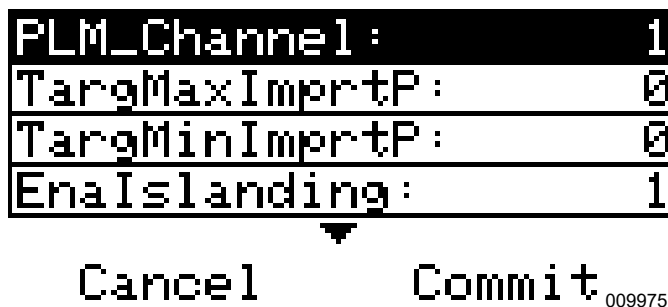

Figure 3-12. Mod. Settings Menu (2 of 3)
- See Figure 3-12. Use the up and down arrows to scroll through available settings.